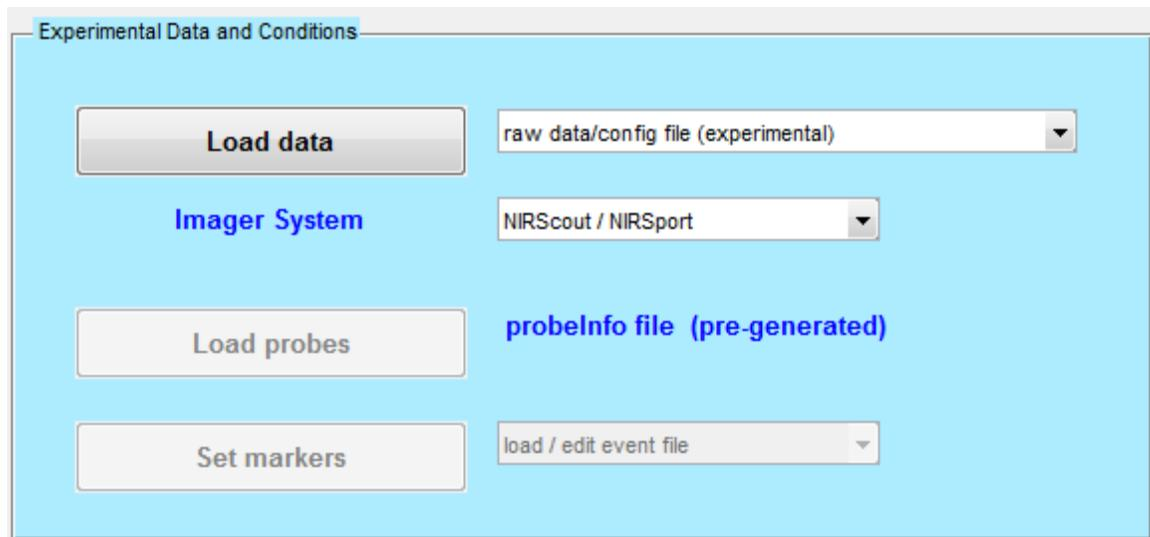
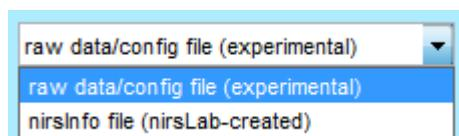
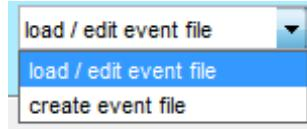
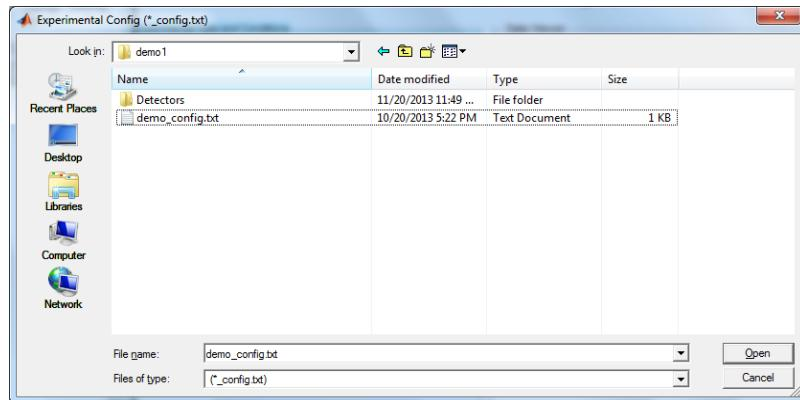

Figure 2-1: Experimental Data and Conditions portal, as it appears at nirsLAB startup.
Figure 2-2. File-type pull-down menu.
Figure 2-4. Event-file pull-down menu.
Figure 2-5. Browser window
The components in the **Experimental Data and Conditions portal**, shown in Figure 2-1, are used to load data sets produced by a NIRx imaging system (NIRScout, NIRSport, DYNOT) or by a BIOPAC system and initialize a nirsLAB project, load a probeInfo file previously generated with the **Setup probes** utility (Chap. 7), load and (if necessary) edit a previously generated event-records file, or create an event file in cases where one does not already exist.
- Pull-down menu for specifying whether to load an existing events-record file, or create a new one (disabled until a _config.txt or nirsInfo file is loaded), Figure 2-4.
2. From the *Imager System* pull-down menu (Figure 2-1, Figure 2-3), select the type of imager that was used for data collection. The *NIRScout / NIRSport* menu item is the default option.
3. Specify the type of data to be loaded. If the data set you wish to process has not previously been loaded into nirsLAB, or if you want to overwrite all results obtained in earlier processing sessions, then select the ‘raw data/config file (experimental)’ default option from the pull-down menu next to the *Load data* button (Figure 2-1, Figure 2-2). (Otherwise, skip to Step 5.)
4. Click on the *Load data* button to open a browser window (Figure 2-5). Depending on the option chosen in step 2, you will need to load different file types:
5. If a nirsInfo file already exists and you do not want to overwrite the results generated in previous nirsLAB sessions, select the ‘nirsInfo file (nirsLAB-created)’ item from the pull-down menu depicted in Figure 2-2. Then click on the *Load data* button (Figure 2-1), use the pop-up browser (Figure 2-5) to navigate to the folder containing the nirsInfo file, highlight that file to select it, and click on the *Open* button. nirsLAB will automatically load the information it needs to permit further processing or review of previously generated results.
6. If the project-root folder already contains a nirsInfo file, nirsLAB still allows you to click on the *Load data* button with the default ‘raw data/config file (experimental)’ option selected in the pull-down menu depicted in Figure 2-2. However, in this situation nirsLAB must distinguish between the following possibilities:
Figure 2-7. Pop-up window that opens if the *Load data* button (Figure 2-1) is pressed with ‘raw data/config file (experimental)’ selected from the drop-down menu depicted in Figure 2-2, but the project-root folder already contains a nirsInfo file.
However, if you selected ‘raw data/config file (experimental)’ inadvertently, then simply click on the *OK* button depicted in Figure 2-7 without changing numerical value in the number field. The pop-up will close, and nirsLAB will open the following message window on your screen to remind you to select the ‘nirsInfo file (nirsLAB-created)’ item from the pull-down menu depicted in Figure 2-2. (The same will happen if you enter any number other than ‘2’. However, an error message will be written to the MATLAB command window if you enter non-numerical text.)
- If the relevant probeInfo file does not already exist, use either the external *NIRSite* tool or *nirsLAB*'s *Probe Setup* tool to generate one (see Chap. 7). After you complete the probe-setup operation, click on the *Load probes* button (Figure 2-1), which becomes enabled after a nirsInfo file is loaded or created, to open a browser window. Navigate to the folder where the probeInfo file is stored. Highlight the probeInfo file to select it, and click on the *Open* button to load the file.
- If the relevant probeInfo file does exist but has not already been associated with the nirsInfo file, click on the *Load probes* button (Figure 2-1), which becomes enabled after a nirsInfo file is loaded or created, to open a browser window (Figure 2-5). Navigate to the folder where the probeInfo file is stored. Highlight the probeInfo file to select it, and click on the *Open* button to load the file.
1. Select an item from the pull-down menu shown in Figure 2-4. If you want to work with the event file generated by the imager, or to modify event-record information already incorporated into the nirsInfo file, select the ‘load event file’ or “edit event file” items. If you don’t have a non-empty event file for the measurement, or if for any reason you prefer not to use the imager-generated file, select the ‘create event file’ item. Then click on the *Set markers* button (Figure 2-1).